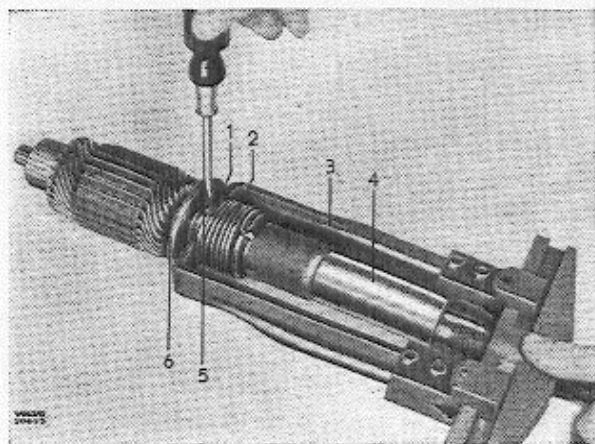

Fig. 43.
7. Press the inner holder (1) for the Bendix spring (2) with the help of the puller (3, Fig. 43) and tubular driver (4) as far forward so that the screw (5) can be removed. Then lift the Bendix device from the shaft.